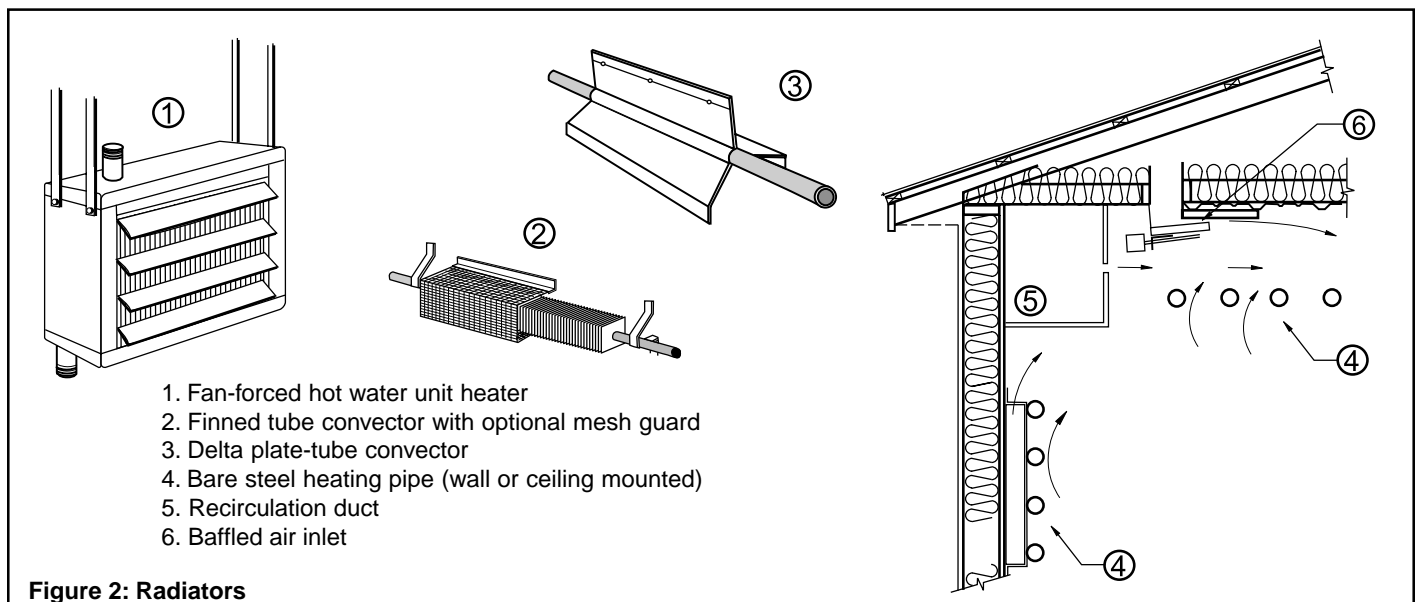

Figure 2: Radiators
RADIATORS: These are the elements that transfer the hot water's heat to the room. Black steel pipe, finned-tube convectors, plate radiators, and fan-forced hot water unit heaters are the main types. **Figure 2** shows some types and their application.
3. Refer to **Figure 2** for typical application detail.